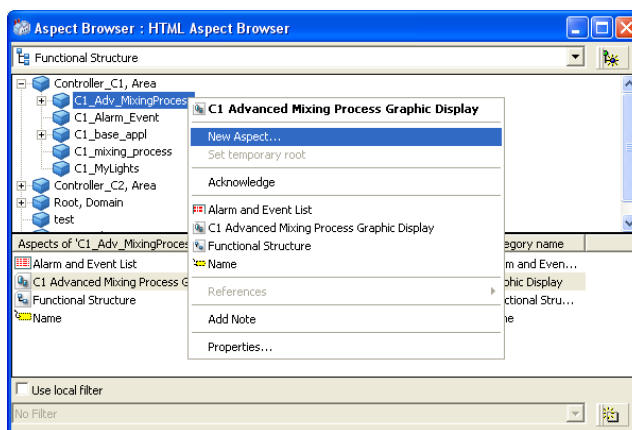

Figure 126. Create New Aspect
2. Right-click on the object to which you want to add an Operator Trend Display. Select **New aspect**, see Figure 126.